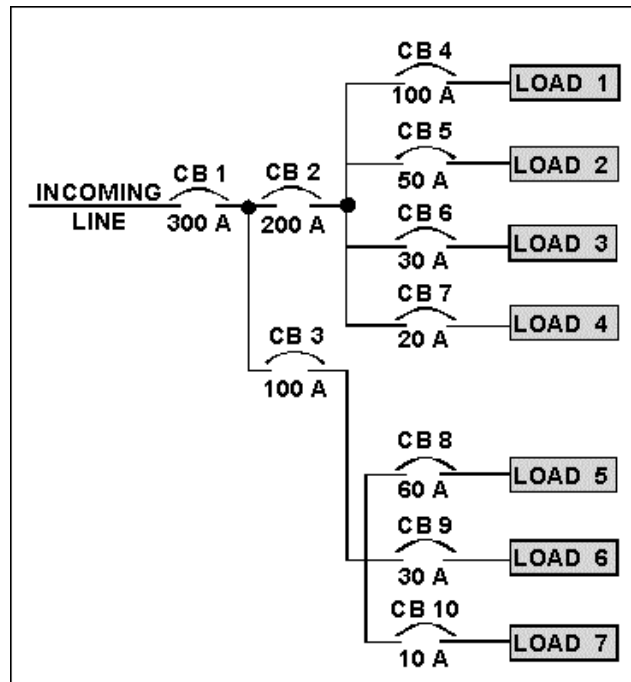

Figure 2-22.—Use of circuit breakers in a power distribution system.
Selective tripping is used to cause the circuit breaker closest to the faulty circuit to trip. This will remove power from the faulty circuit without affecting other, nonfaulty circuits. Figure 2-22 should help you understand selective tripping.
Figure 2-22 shows a power distribution system using circuit breakers for protection. Circuit breaker 1 (CB1) has the entire current for all seven loads through it. CB2 feeds loads 1, 2, 3, and 4 (through CB4, CB5, CB6, and CB7), and CB3 feeds loads 5, 6, and 7 (through CB8, CB9, and CB10). If all the circuit breakers were rated with the same time delay, an overload on load 5 could cause CB1, CB3, and CB8 to trip. This would remove power from all seven loads, even though load 5 was the only circuit with an overload.
- Q39. *If the power distribution system shown in figure 2-22 uses selective tripping, what is the time delay rating for each of the circuit breakers shown?*